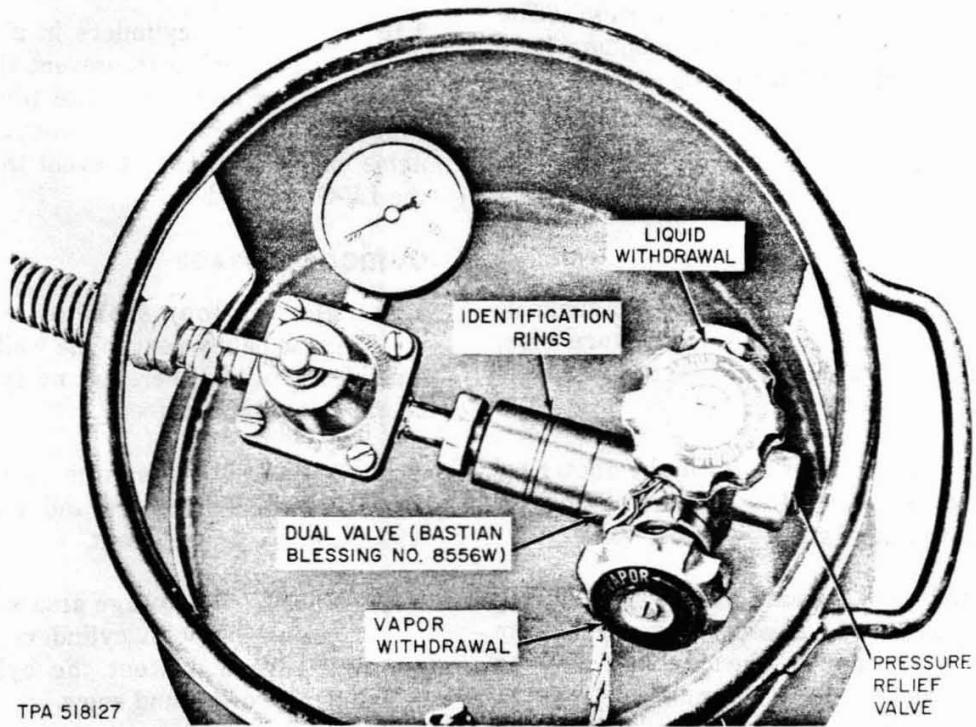

Fig. 2—♦D or E LP-Gas Cylinder♦
Bastian-Blessing No. 8556WD for D Cylinders and No. 8556WE for E Cylinders, supplied with all new cylinders. The "W" series valves (Fig. 2) are designed having excess flow control for both vapor and liquid sides, whereas the "B" valve provided the excess flow check valve only on the liquid side. The new valves are marked with two circumferential rings cut into the cylindrical portion of the valve near the outlet to distinguish them from the early type valve.♦
2.06 The pressure relief valve (Fig. 2) is a device designed to protect the cylinder from dangerously high pressures. Fuel is retained at normal pressures but the valve opens in the event of excessive pressure. Excessive pressures may occur as a result of either overheating or overfilling. Measures must be taken to ensure the proper functioning of relief valves. They are mounted to come in contact with the vapor space of the cylinders when the cylinders are in a vertical position. *When these cylinders are not in a vertical position, the proper functioning of the pressure relief valve may be prevented. It is therefore necessary that these cylinders be maintained in a vertical position at all times.*